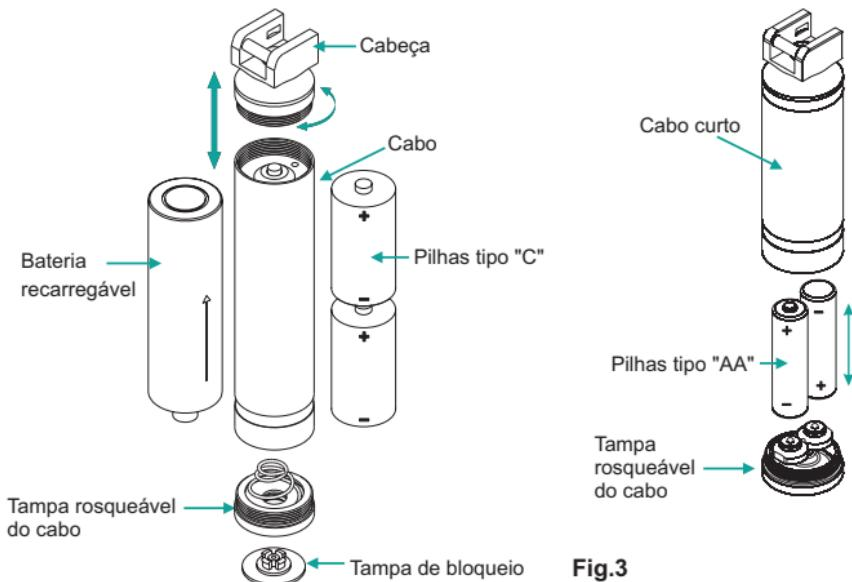

Fig.3
1. Desrosqueie a tampa inferior do cabo e remova as pilhas (Fig. 3).